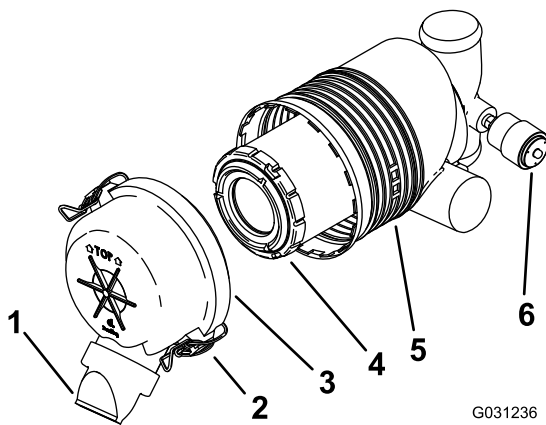

Figure 37
Important: Replace the air-cleaner filter only when the service indicator shows red (Figure 37). Changing the air filter before it is necessary only increases the chance of dirt entering the engine when you remove the filter.
5. Release the latches on the air cleaner and pull the air-cleaner cover off the air-cleaner body (Figure 37).
- If the service indicator is clear, install the air-cleaner cover with the dust cap oriented downward and secure the latches (Figure 37).
1. Gently slide the filter out of the air-cleaner body (Figure 37).
3. Carefully install the filter (Figure 37).
4. Install the air-cleaner cover with the dust cap oriented downward and secure the latches (Figure 37).